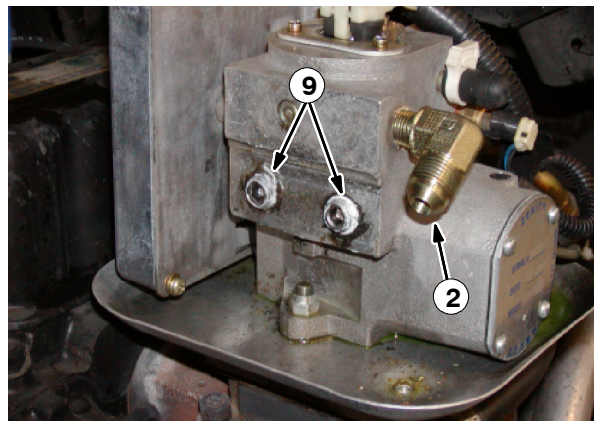

FIG. 13
31. Thread two plug fittings (9) into the LPG throttle housing assembly. Refer to Fig 13.
32. Thread a 90° hydraulic fitting (2) into the LPG throttle housing assembly. Refer to Fig 13.